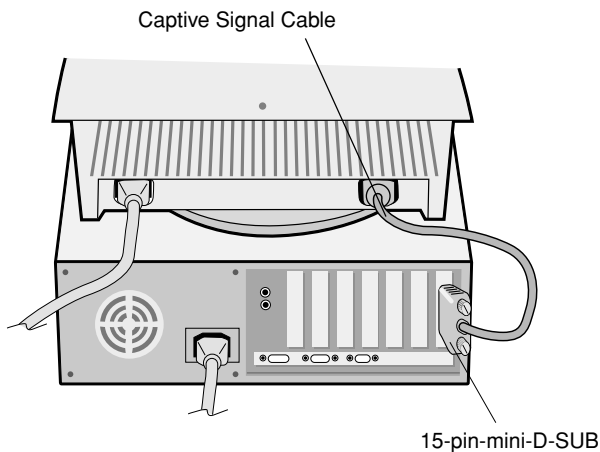

Figure A.1
3. **For the PC:** Connect the 15-pin mini D-SUB of the captive signal cable to the connector of the display card in your system (**Figure A.1**)